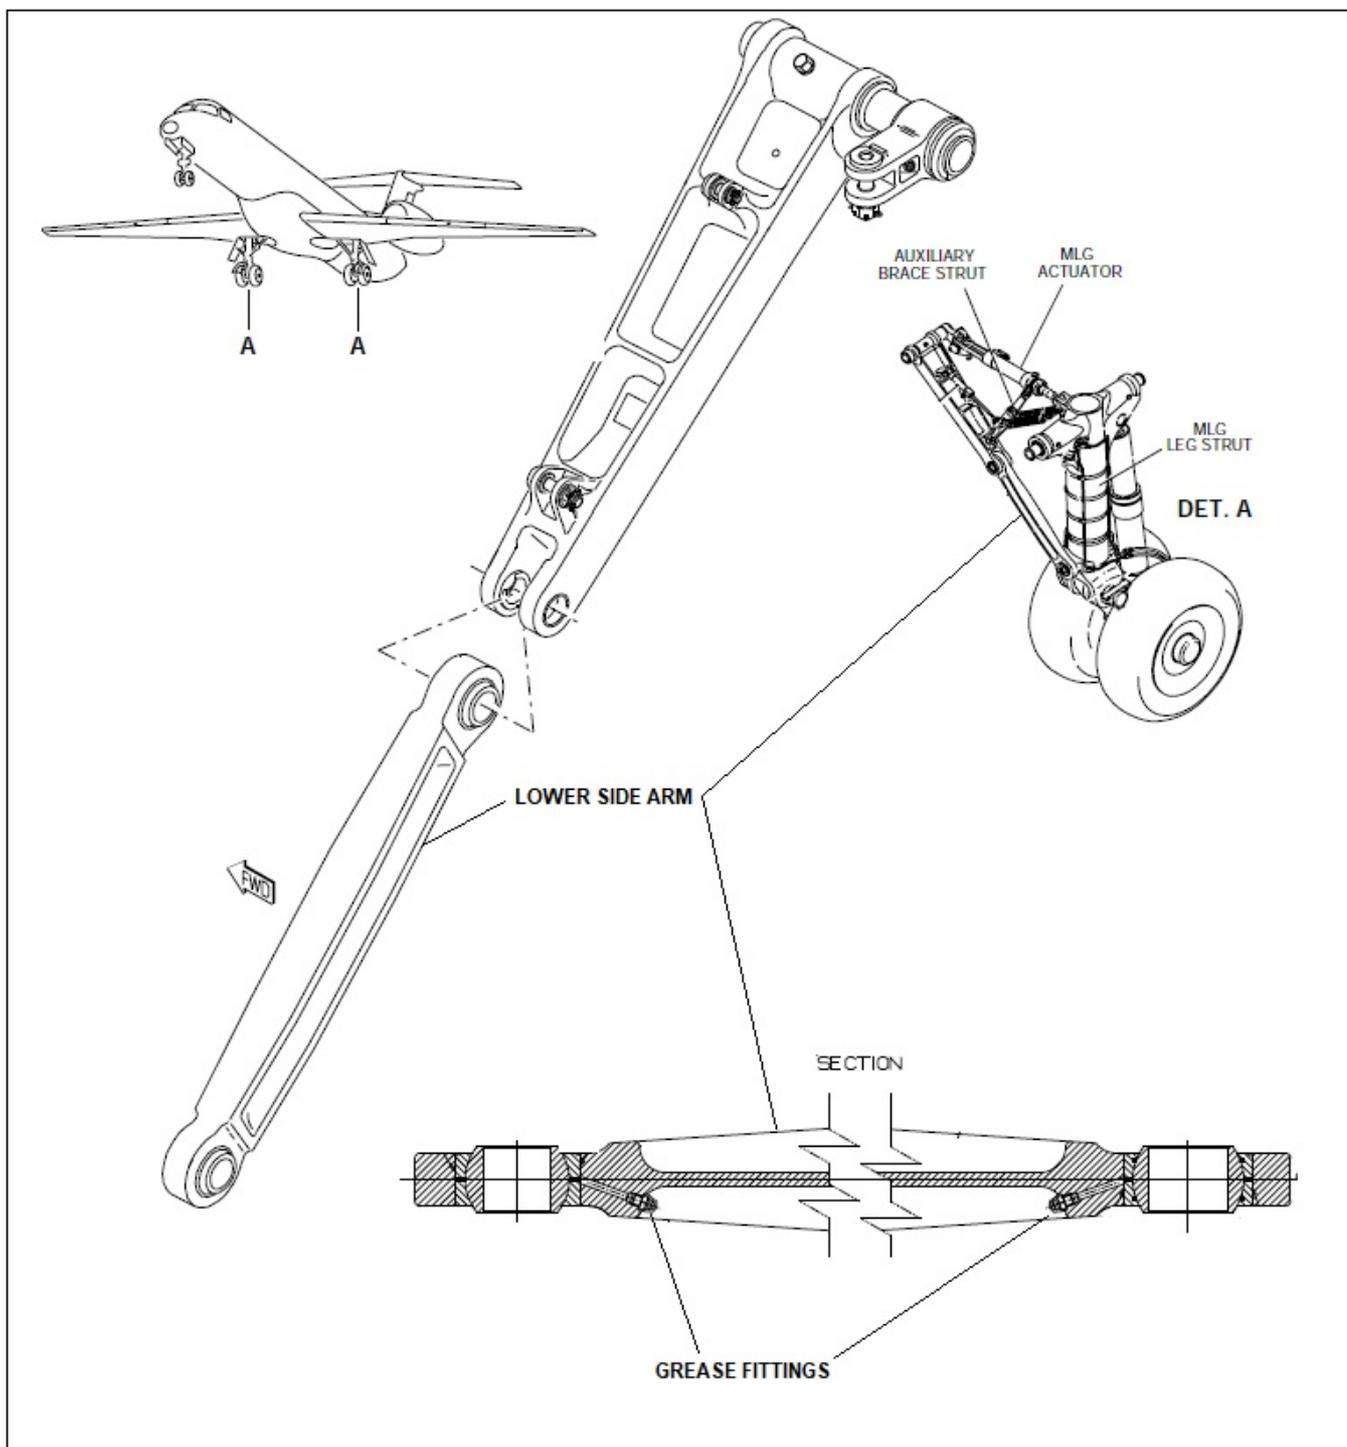

Figure 1: MLG Lower Side Arm correct grease fittings installation
The inspection revealed one occurrence of an MLG Lower Side Arm installed on an aircraft possessing grease fittings on both of its sides. This is not an approved configuration as the MLG Lower Side Arm must have both of its grease fittings installed on the same side (see Figure 1 below).
A one-time inspection, and replacement of the MLG Lower Side Arm by a serviceable part (see NOTE 1), if necessary, as to the correct positioning of the grease fittings (see Figure 1).
NOTE 1: A serviceable MLG Lower Side Arm (P/Ns 2309-2510-501, or 2309-2510-503, or 2309-2510-505) is one that has both grease fittings installed on the same side of the part (see Figure 1).
- i. If, during the inspection required by item (a)(1) above, it is found that the grease fittings are installed on opposite sides of the MLG Lower Side Arm (one grease fitting on one side and the other on the opposite side), before the next flight (see NOTE 2), replace the MLG Lower Side Arm by a serviceable part (see NOTE 1). To comply with this paragraph, refer to procedure 32-10-03/400 (MAIN-LANDING-GEAR MAIN BRACE STRUT - REMOVAL/INSTALLATION) of the AMM applicable to the aircraft, and to the CMM (Component Maintenance Manual), procedure T.P. 145/1190\_32-10-03, as necessary;
- ii. If, during the inspection required by item (a)(1) above, it is found that both grease fittings are facing opposite to the flight direction, before the next flight (see NOTE 2), remove the Lower Side Arm and re-install it on the correct position (both grease fittings facing the flight direction – see Figure 1). To comply with this paragraph, refer to procedure 32-10-03/400 (MAIN-LANDING-GEAR MAIN BRACE STRUT - REMOVAL/INSTALLATION) of the AMM applicable to the aircraft, and to the CMM (Component Maintenance Manual), procedure T.P. 145/1190\_32-10-03, as necessary.